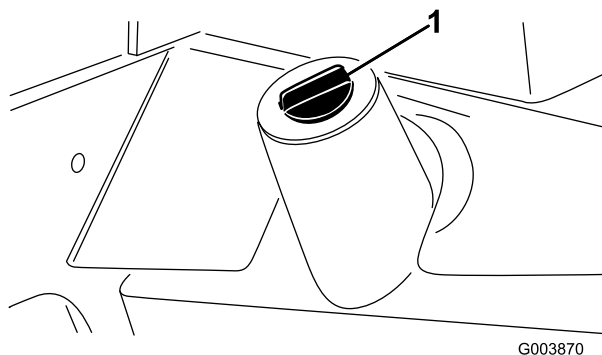

Figure 28
2. Clean the area around the filler neck and cap of the hydraulic tank (Figure 28).